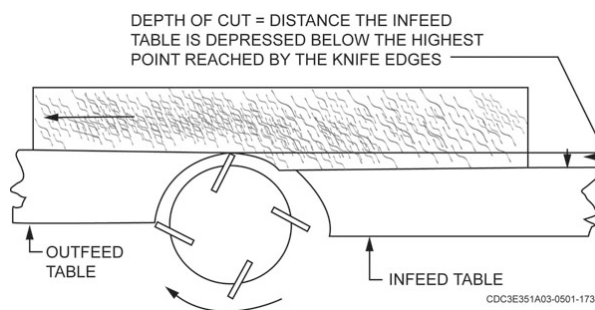

Figure 4-61. Jointer cut depth.
- Set the outfeed table to match the highest point reached by the blade (fig. 4-61). (**NOTE:** The clearance between the edge of the outfeed table and the cutterhead must not be more than  $\frac{1}{8}$  inch.)